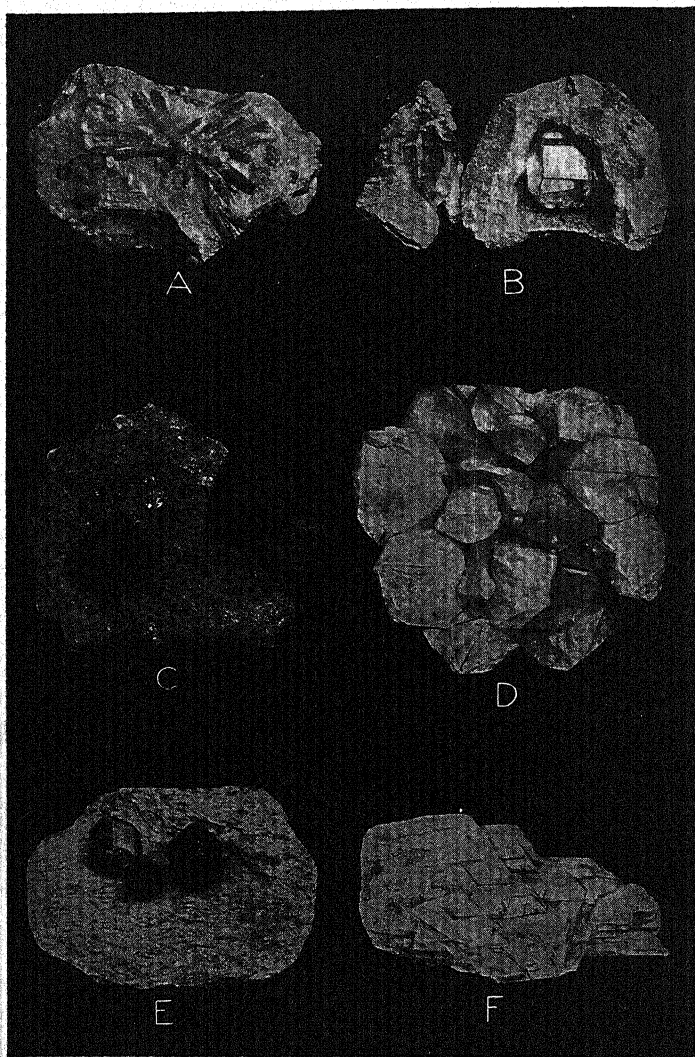

FIG. 71. — Plate of crystals. *a.* Rubellite. *b.* Quartz crystal in matrix. *c.* Galena. *d.* Quartz crystals. *e.* Garnets on rock. *f.* Gypsum.
**88. Crystallization.** If we continue to concentrate a solution by evaporating the solvent, or if we cool a hot, saturated solution, some of the solute will separate from the solvent in the form of crystals. It is a characteristic habit of substances, when they are thrown out of solution as solids, or when they change from the liquid to the solid state by freezing, to form crystals having some regular, geometric pattern. For example, crystals of common salt are cubes; alum and diamond crystals are octahedral. The shape that the crystal takes is peculiar to the substance; hence it is sometimes possible to identify a substance by the shape of its crystals. (See Fig. 71.) We are all familiar with the fact that water forms crystals upon freezing; molten sulfur, sugar, or iron will form crystals in a similar manner upon solidifying or freezing.